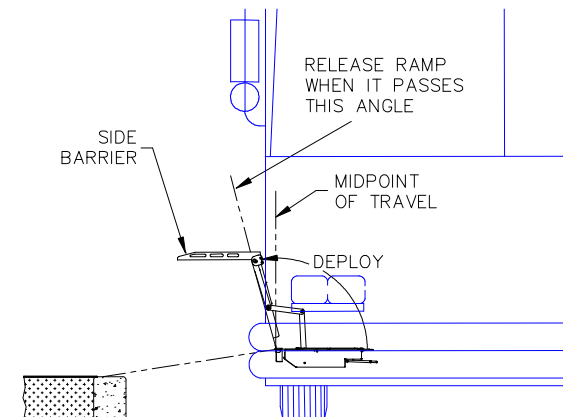

FIGURE 3-4: RAMP MIDPOINT DURING MANUAL DEPLOY
- 1) Refer to **Figure 3-4**. Grasp side barriers. Lift ramp slightly to obtain a handhold on front edge of ramp.